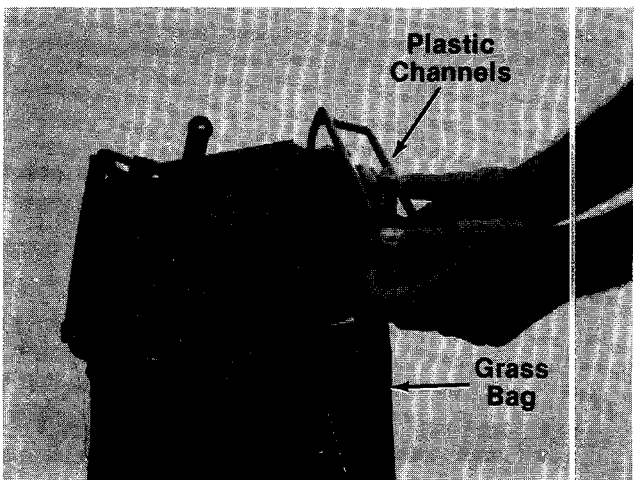

FIGURE 15.
3. Secure bag to frame by slipping plastic channels on bag over frame. See figure 15.